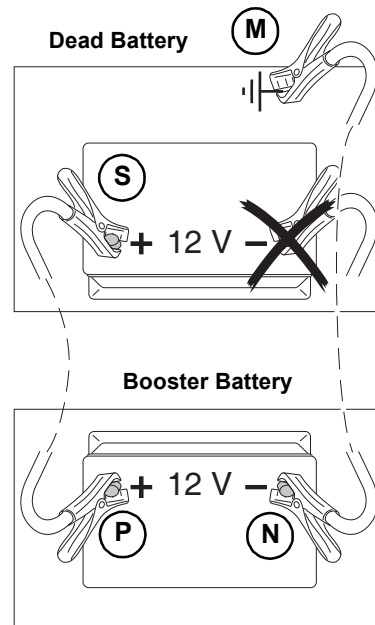

Fig. 48 – Booster Battery Connection
4. Connect the positive jumper cable to the positive (+) terminal (S, Fig 48) on the discharged battery.